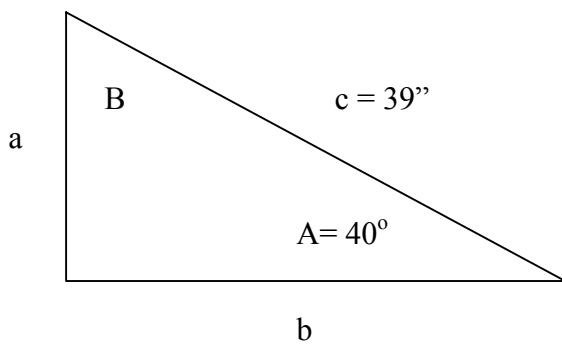

Fig. 1
1) Given the right triangle in Fig. 1, find sides a and b and angle B :